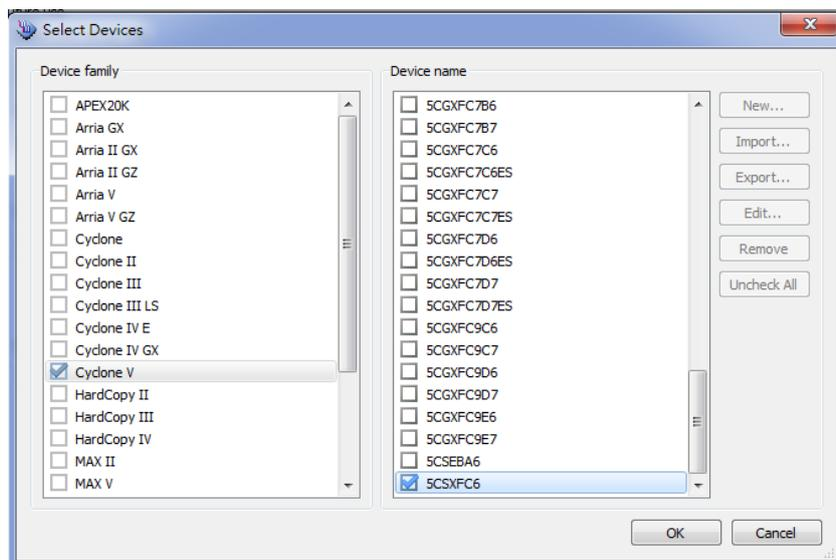

Figure 6-4. Select Devices Page
12. Select the targeted FPGA that you are using to program the serial configuration device. See Figure 6-4.